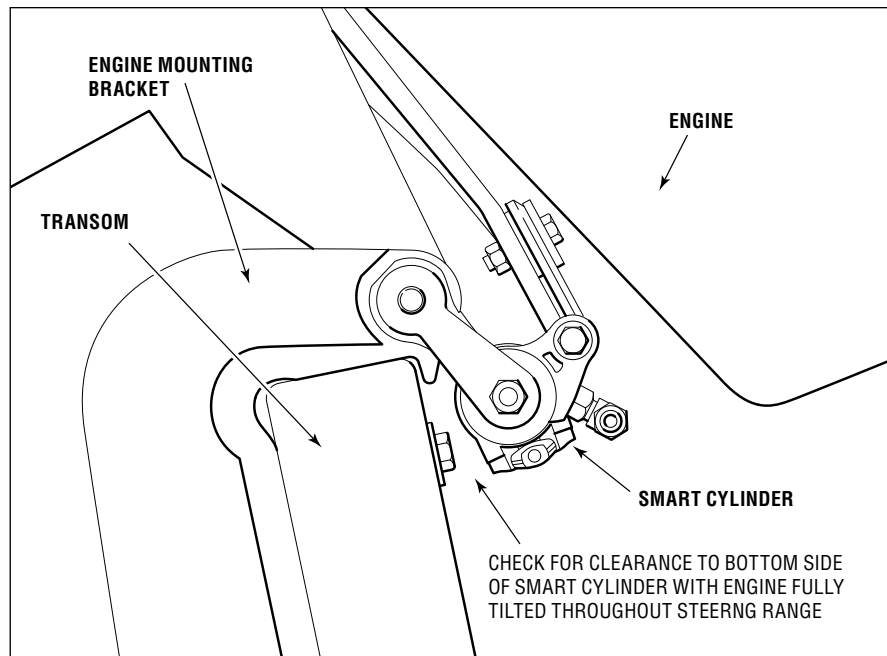
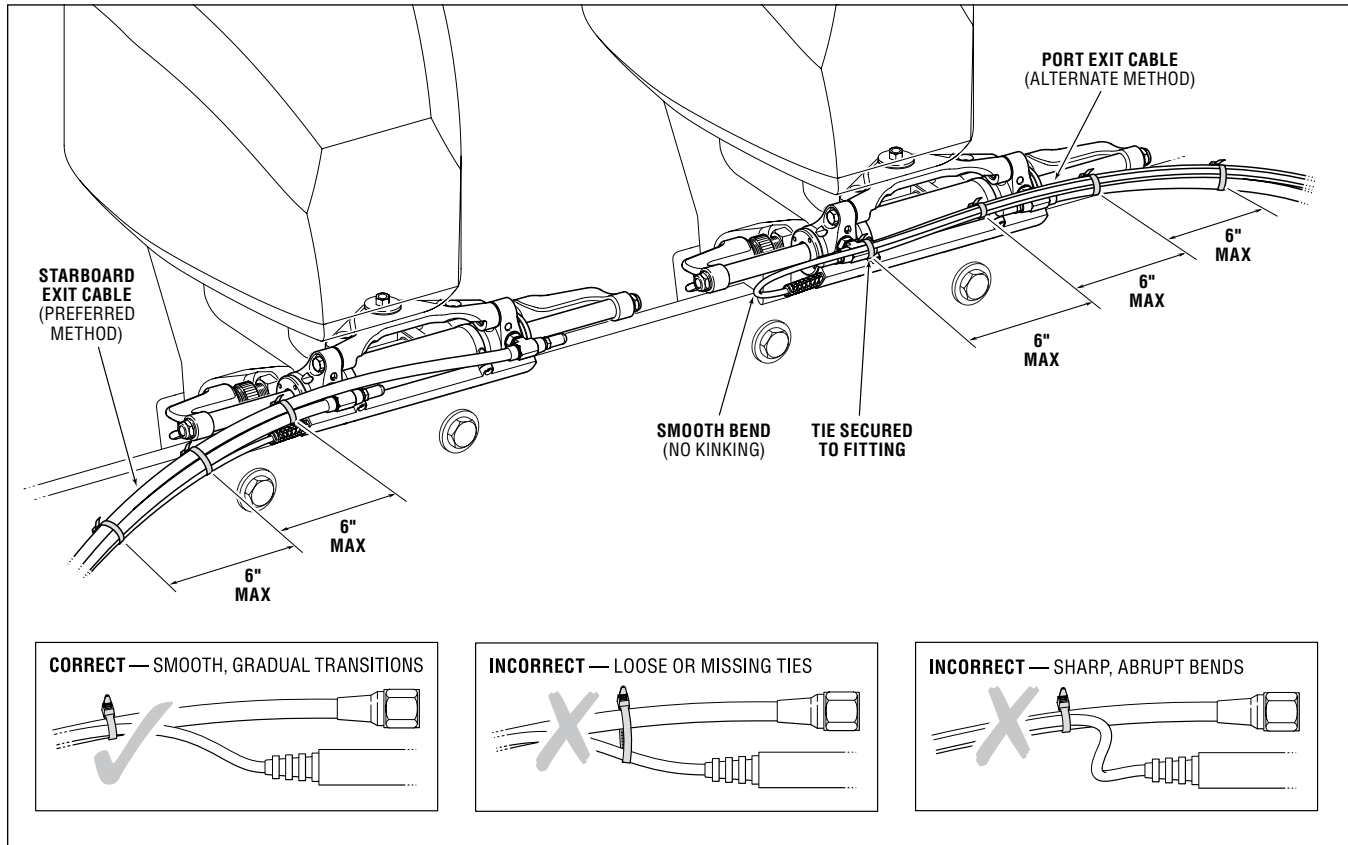

Figure 8-1. Engine side view when tilted.
Figure 8-2. Sensor cable and hose routing checks.
**1. Interference Checks** – Confirm that there is no interference between the steering cylinder(s), splashwell, outboard engine(s), tie bars, or any combination of these parts, by performing the steps below. For each step also check that the hoses and harnesses are moving freely with no rubbing or binding (see figure 8-1 and figure 8-2). Be sure to steer slowly while performing these checks.
**2. RFU Harness** – Confirm that the RFU harness is tied securely to the hoses with gradual bends as shown figure 8-2.